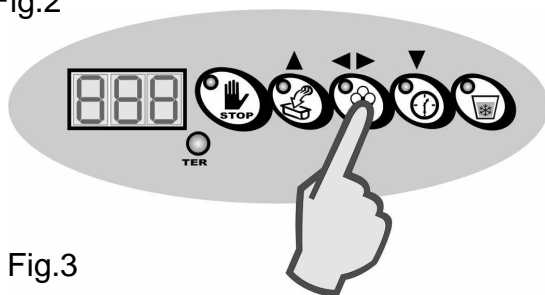

Fig.3
7. If, instead, you wish to change the selected step, press the “CONFIRM” key (fig. 3) to view the current value and subsequently press the “UP” or “DOWN” keys to increase or decrease the value. Subsequently, press the “CONFIRM” key to confirm the data.